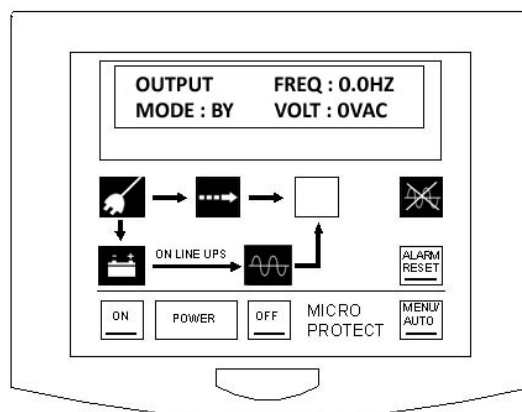

Figure 18 : LCD and Indicators - 2
4. Switch ON 「 3. Mains Input N.F.B. 」 (see Figure 6). The indicators will light and LCD will show as Figure 18.
4. Switch ON 「 2. Mains Input N.F.B. 」 (see Figure 7). The indicators will light and LCD will show as Figure 18.
5. Switch ON 「 4. Bypass N.F.B. 」 (see Figure 7). The indicators will light and LCD will show as Figure 18.